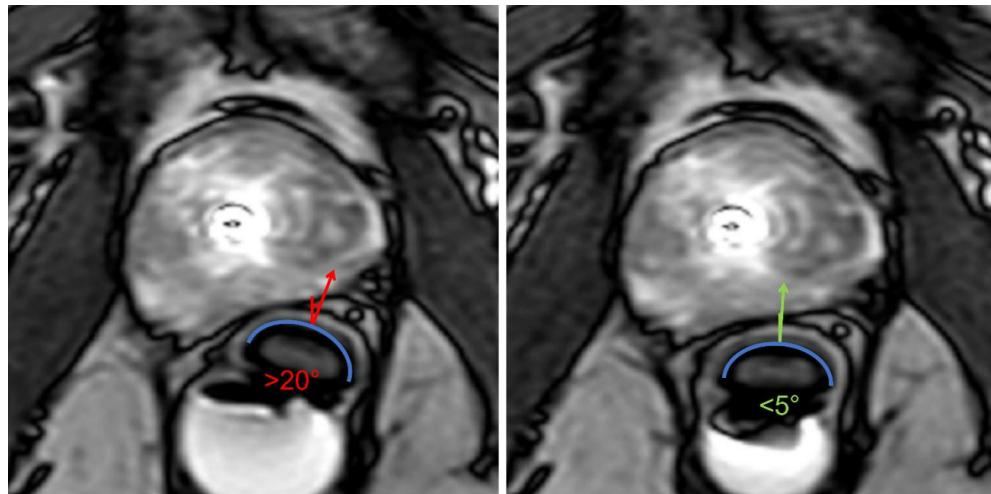

Figure 33: Axial images depicting ECD oriented incorrectly (left, rotated more than 20 degrees) and correctly (right, facing up towards the prostate)
- b. The orientation of the cooling window should face the prostate (anterior), as confirmed on the axial MRI (*Figure 33*). Check that the ECD cooling window is adjacent to and facing the prostate, with the handle-neck joint of the ECD at the anal verge and the raised, tactile ridge on the ECD handle facing anteriorly.